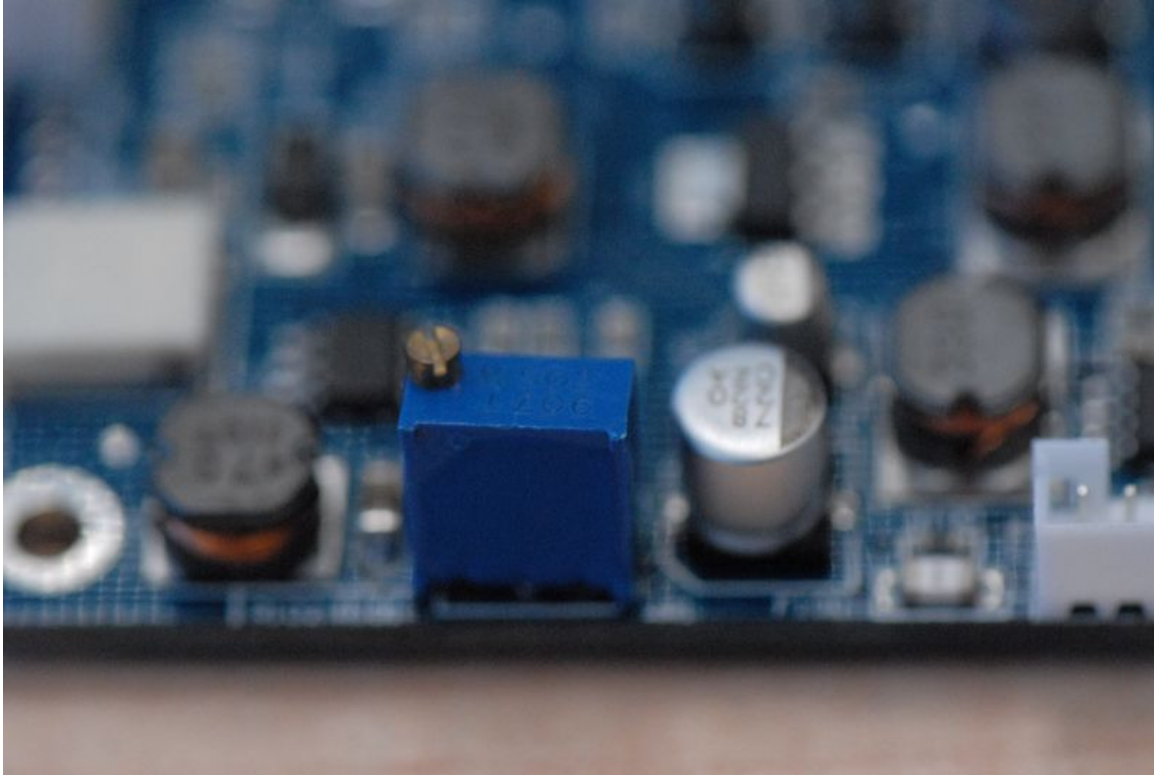

Fig. 8 Backlight brightness adjustment variable resistor
- d. The LED backlight in our LCDs are constant current design. Brightness can be adjusted to datasheet value by adjusting the LED driver board output current to datasheet value. Some signal converter boards have a variable resistor for this purpose (Fig 8). In the absence of this variable resistor, a variable resistor should be added on the ADJ line of the 6 pin connector and cable assembly to properly adjust backlight brightness. Use of the brightness control in OSD function does not properly adjust backlight brightness.